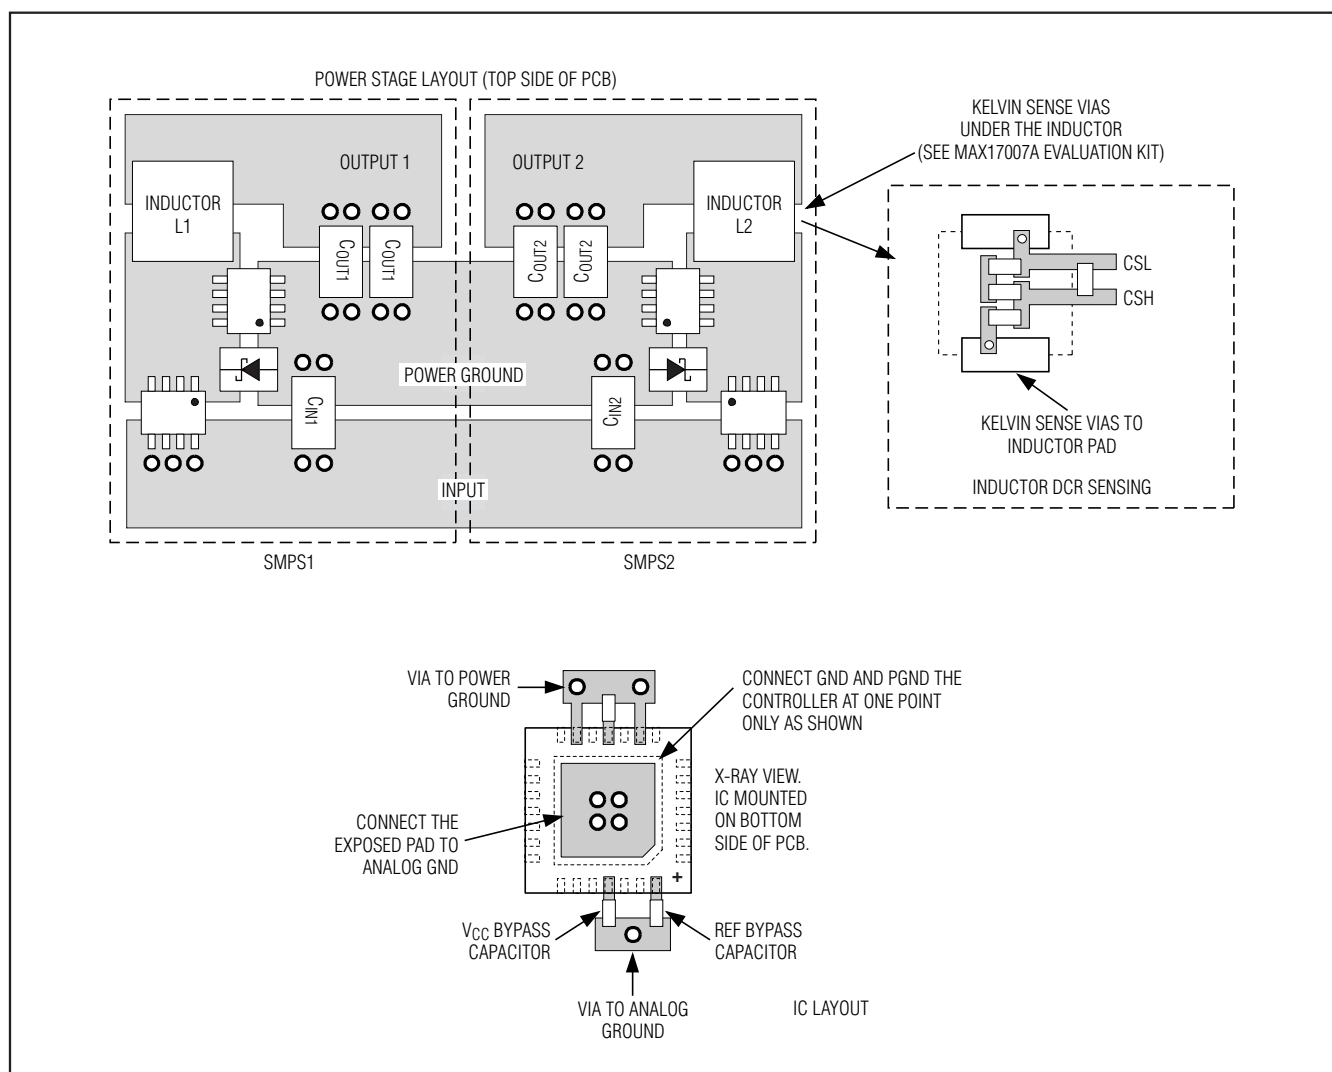

Figure 15. PCB Layout Example
- 5) Connect the output power planes ( $V_{OUT}$  and system ground planes) directly to the output filter capacitor positive and negative terminals with multiple vias. Place the entire DC-DC converter circuit as close to the load as is practical. See Figure 15.